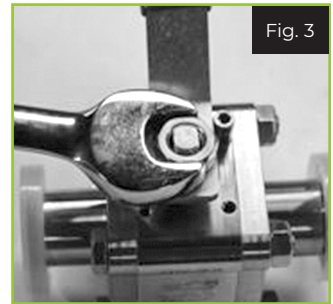

Fig. 3
2. Next, remove the valve handle by removing the top stem nut with the 11/16" wrench (Fig. 3). Set the nut aside for later use. Tip: With one hand, hold the valve handle firmly and use the wrench with the other hand to loosen the nut.